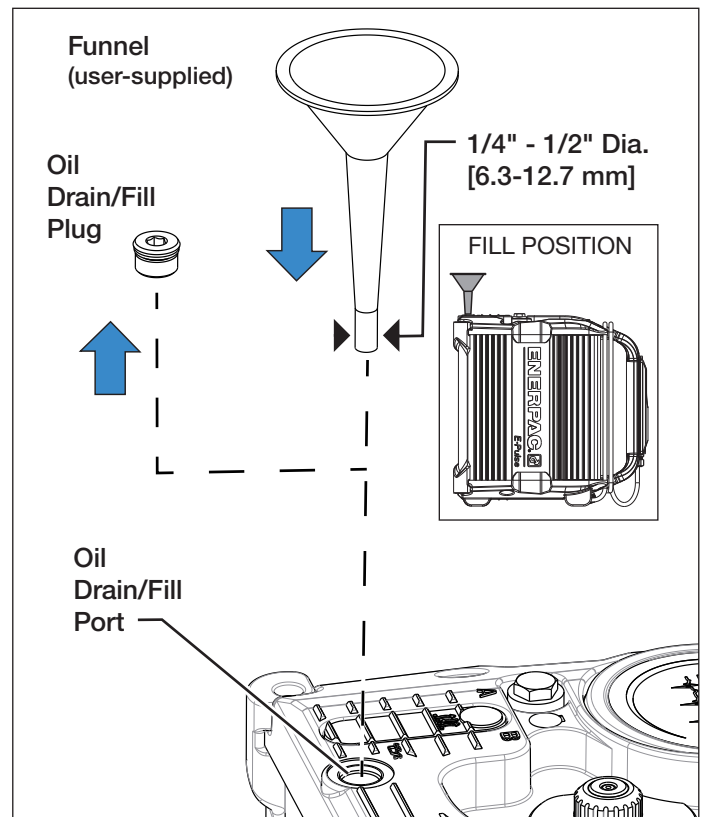

Figure 12, Adding Oil
6. Place the pump on a stable and level work surface, with the front cover facing UP, and the rear cover supported by the work surface. See Figure 12.
- Always use a funnel when adding oil. To avoid spillage and to ensure that pump internal venting functions properly during filling, funnel neck outer diameter must not exceed $\frac{1}{2}$ inch [12 mm] or be less than $\frac{1}{4}$ " [6.3 mm]. Refer to Figure 12.